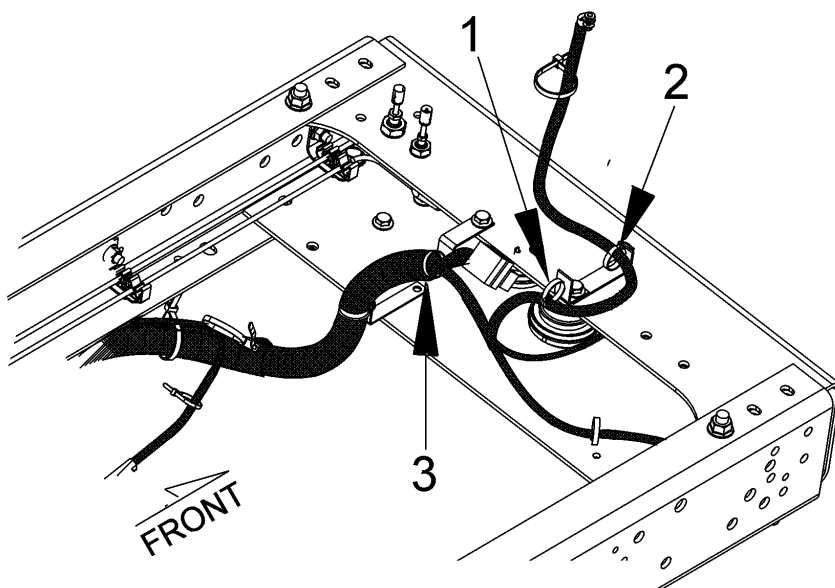

Figure 2 Remove Tie Straps
3. Remove 2 cable strap locks securing the IP harness to passenger side bracket(s) (Figure 2, Item 1 and Item 2). Remove the bracket and save fasteners for reuse during reassembly.
4. Remove cable strap lock securing the IP harness to rear of driver side bracket (Figure 2, Item 3). Remove the bracket and save fasteners for reuse during reassembly.